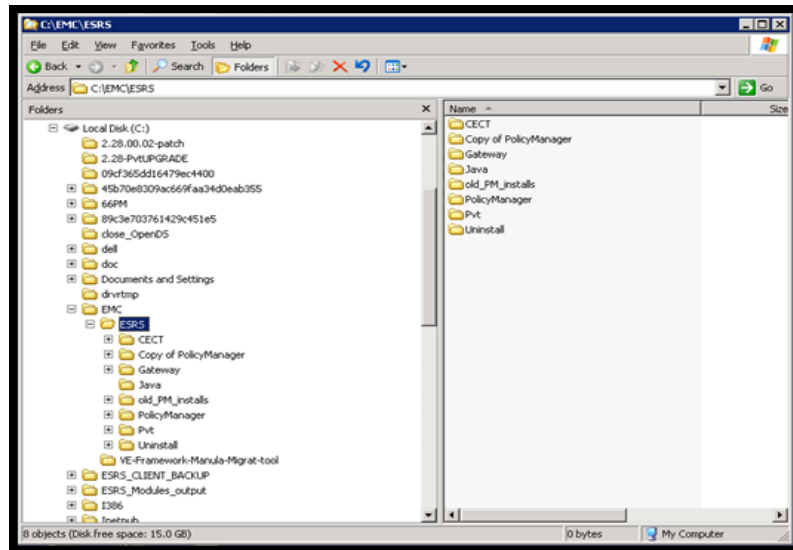

Figure 125 Navigating to SRS
2. Navigate to the location where SRS is installed (default path <install_drive>:\EMC\ESRS\), as shown in Figure 125 on page 101.